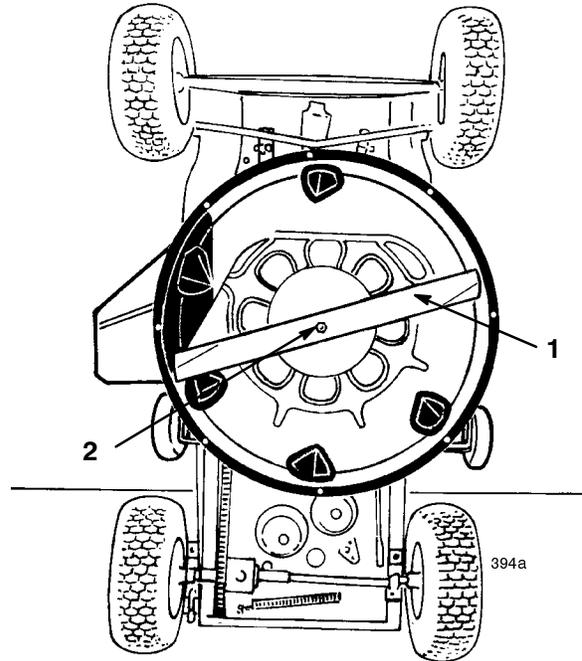

Figure 16
6. Grasp end of blade using a rag or thickly padded glove; then remove blade bolt, washer and blade (Fig. 16).
- In sequence, reinstall blade, washer and blade bolt (Fig. 16). Tighten blade bolt to 45-60 ft-lb (61-81 Nm).